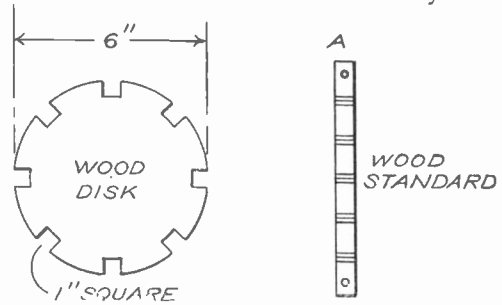

FIG. 19. SENDING HELIX PARTS
The parts which go to make up the helix are as follows: Two oak disks  $\frac{1}{2}$  inch thick and six inches in diameter; eight wood standards one inch square and six inches high; 10 feet of No. 8 bare copper wire. The edges of the disks are countersunk, at equal distances around the entire circumference with one-inch squares as shown in Fig. 19. The wood standards are now cut with V-shaped notches  $\frac{1}{4}$  inch deep and one inch apart all the way down. Holes are drilled at each end. The completed piece is shown at (A) in Fig. 19. The